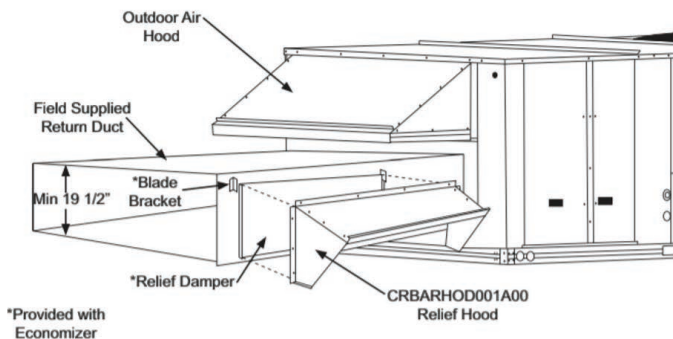

Fig. 31 — Installing CRBARHOD001A00 Over Relief Damper
4. Using the blade brackets, install the relief damper onto the side of the return duct (see Fig. 31). The two brackets and relief damper are provided with the economizer.
Caulk the backside of the mating flanges to ensure a watertight seal. Install the CRBARHOD001A00 over the relief damper and screw to the return duct, as illustrated in Fig. 31.